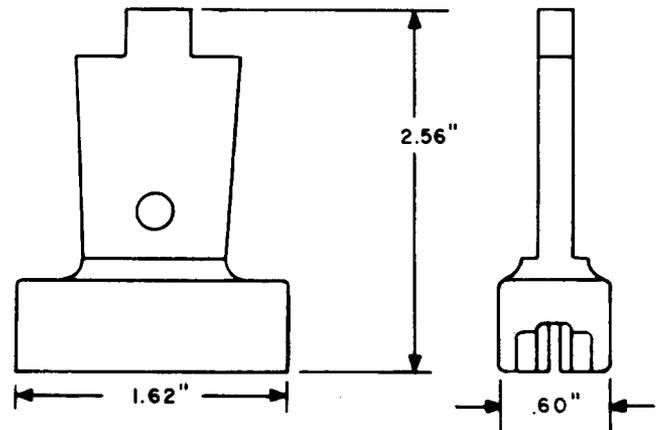

Fig. 7—788C1 Inserter Tool
**2.07 788C1:** The 788C1 inserter tool (Fig. 7) is used with a 788A1 tool handle. The 788C1 tool is used for inserting and trimming off up to five pairs of conductors at a time while being installed in an 88-type wiring block.